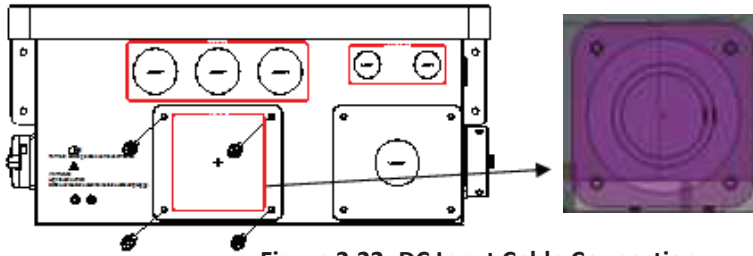

Figure 2.22- DC Input Cable Connection
- (g) If you prefer to route all DC cables thru a single hole inside the wiring box please refer to Figure 2.22
- ① Remove the 4 screws on the wiring box and take off the adaptor plate (refer to Fig.2.22).
- ② Using a knockout punch tool create the appropriate hole on the adaptor plate. Note that for your convenience there are guidelines for a 2", 2.25" and 3" hole.
- ③ Attach the board to the wiring box with the screws (4 pcs). Torque to 35 in-lbs.